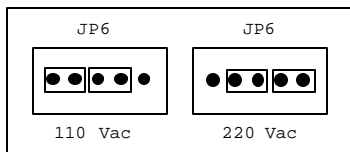

Figure 3. JP6 on main board.
4. Set JP6 for the desired voltage. See Figure 3.
J1	Accepts power from either a 110 or 220 Vac source. Jumper JP6 on the main board must be adjusted to switch between 110 and 220 Vac. See Figure 3.